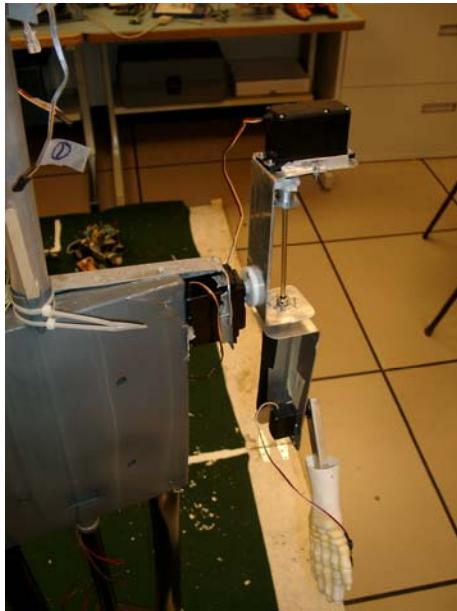

Fig. 3: Robot's shoulder. As you can see it isn't at its right position
- every time when the robot moved a arm, it dragged the shirt at the shoulders. It made the big servos even stuck. The reason for that can be found in the original design. The shoulder joint is not were it is supposed to be. The robot’s arm overtops the shoulder (Fig. 1 and Fig. 3). Therefore the joint is in the middle of the upper arm which is not natural.